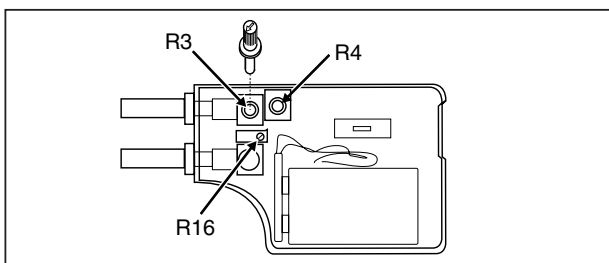

Figure 5. Calibration Adjustment Points
7. Center the ZERO potentiometer, R3 (see Figure 5). Remove the knob from R3 and insert it into R4 (the coarse zero adjustment). With no pressure applied, set the reading to $0\text{ mV} \pm 0.3\text{ mV}$. Insert the knob back into R3, and adjust the final reading to 0.0 mV , $\pm 0.1\text{ mV}$.